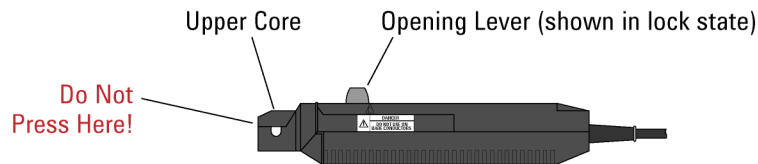

Figure 5 Use the Opening Lever
- 3 Slide the probe's Opening Lever into the **Locked** position as shown in Figure 5.